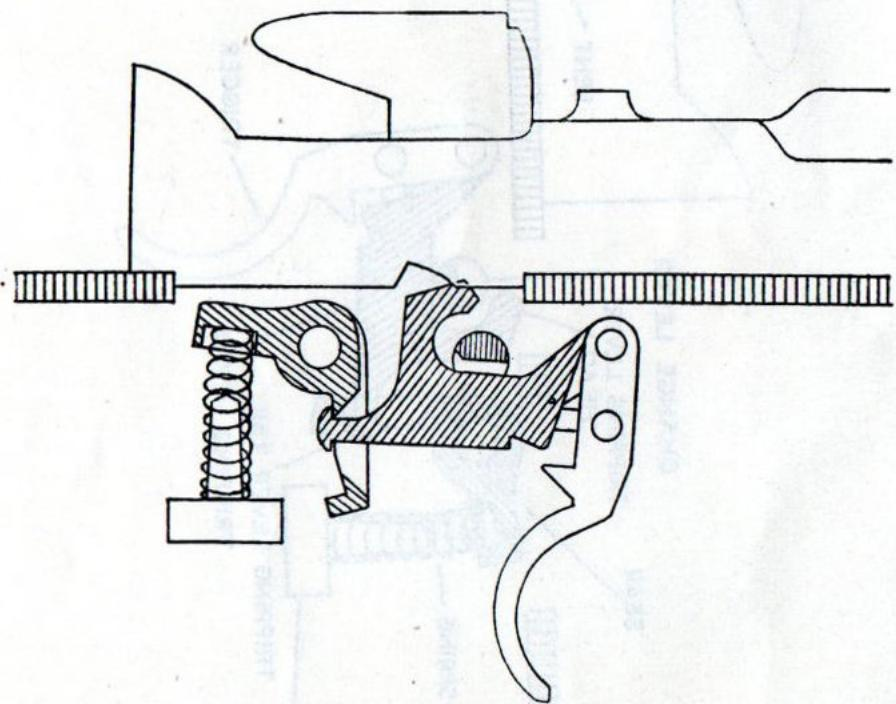

Fig 28.—The trigger pressed with the change lever at "R"
3. Single rounds.—When the change lever is at "R" (see Fig 28):—